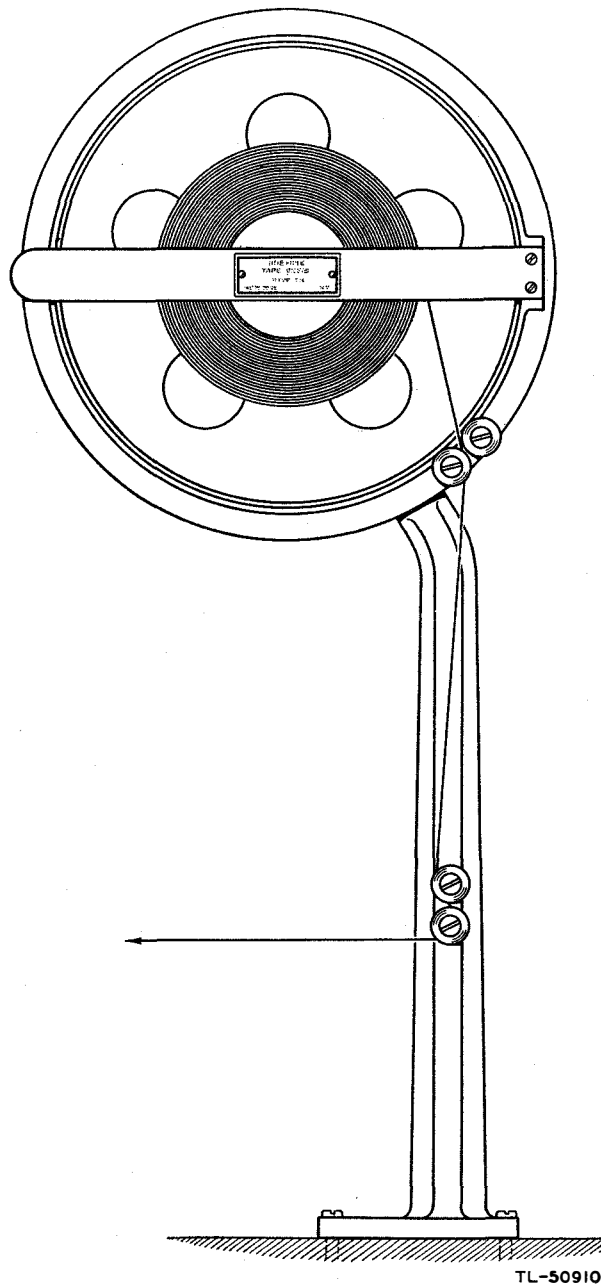
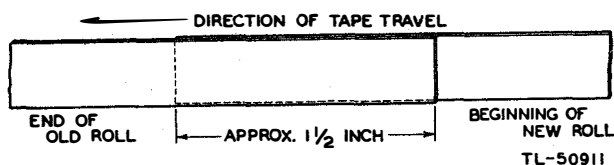

Figure 89. Installation of tape in tape reel.
Figure 90. Splicing of recorder tape.
a. To insert a roll of tape, open the hinged tape-retaining bar and place the roll of tape over the hub of the reel so that it rotates clockwise (the top turning to the right) when being unwound. Snap the tape-retaining bar back into place to retain the roll. Thread the tape between the idler rollers as shown in figure 89.
(1) Remove the almost empty reel of tape from the tape reel and unwind the remaining tape.
(2) Place the new roll of tape on the tape reel hub.
(3) Make certain that there are no twists in the old tape or the new tape on the reel. Paste the old tape *over* the new tape as shown in figure 90 so that the pen will not catch on the edge of the new tape as the joint passes. Lap the tape about  $1\frac{1}{2}$  inches. Remove excess paste.
(4) Place the new reel of tape within the tape reel and snap the retaining bar shut. Thread the tape over the idler rollers as shown in figure 89. Check for twists. Resplice if necessary.
(5) With the new tape behind the old tape, avoid bouncing of the pen, as the joint passes, by a slight pressure of the forefinger on the tape to help guide it past the pen.